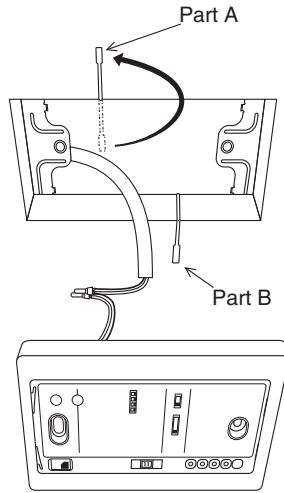

Fig. 8-30
- (4) Bend parts A and B of the metal fitting so they hold onto the ceiling firmly. (Fig. 8-30)
- (5) Connect the receiver's wiring (2 cores) with the wiring from the indoor unit. (Refer to the chapter on wiring the receiver)